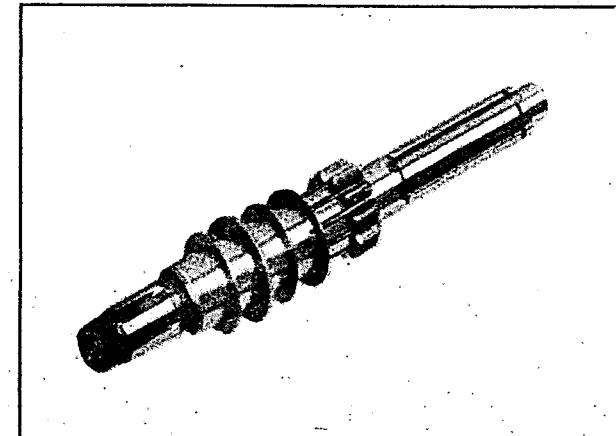

Fig 3.46
- Remove the thrust washers and thrust bearing (fig 3.46)